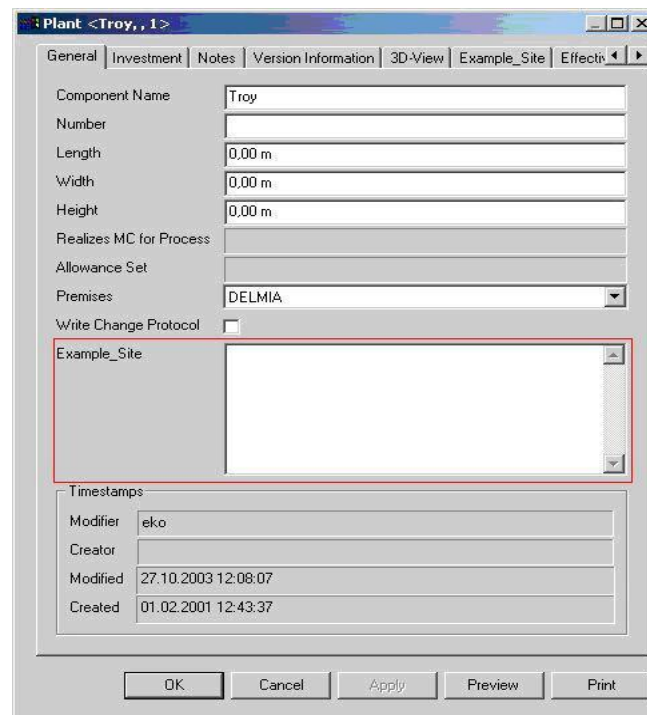

Figure 37: Properties Dialog with “Example_Site” Input Field
- 7) Open the Plant Properties again. You have now added a simple editor for entering a site in the Properties dialog. *Please refer to the Figure 37.*
- Assign the **Group/page site** to the **attribute Site** previously created (*Please refer to the Figure 37*) in the field group of the properties dialog.